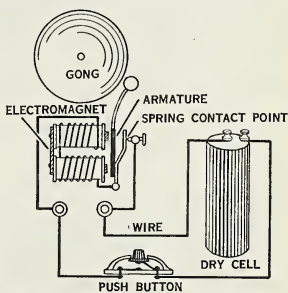

Fig. 302. Showing how an electromagnet rings the bell. What happens to the armature when the button is pushed?
**The electric doorbell.** The movable part of the electric bell, carrying the hammer which strikes the bell, is called the *armature* (Fig. 302). Attached to the armature is a brass spring that causes the armature to rest against the *contact point*. The lower end of the armature is connected by a wire to a horseshoe electromagnet. The other end of the electromagnet is joined to a *push button*, or *switch*. The switch is connected to a dry cell, and the cell to the contact point. Trace all these connections in the figure.